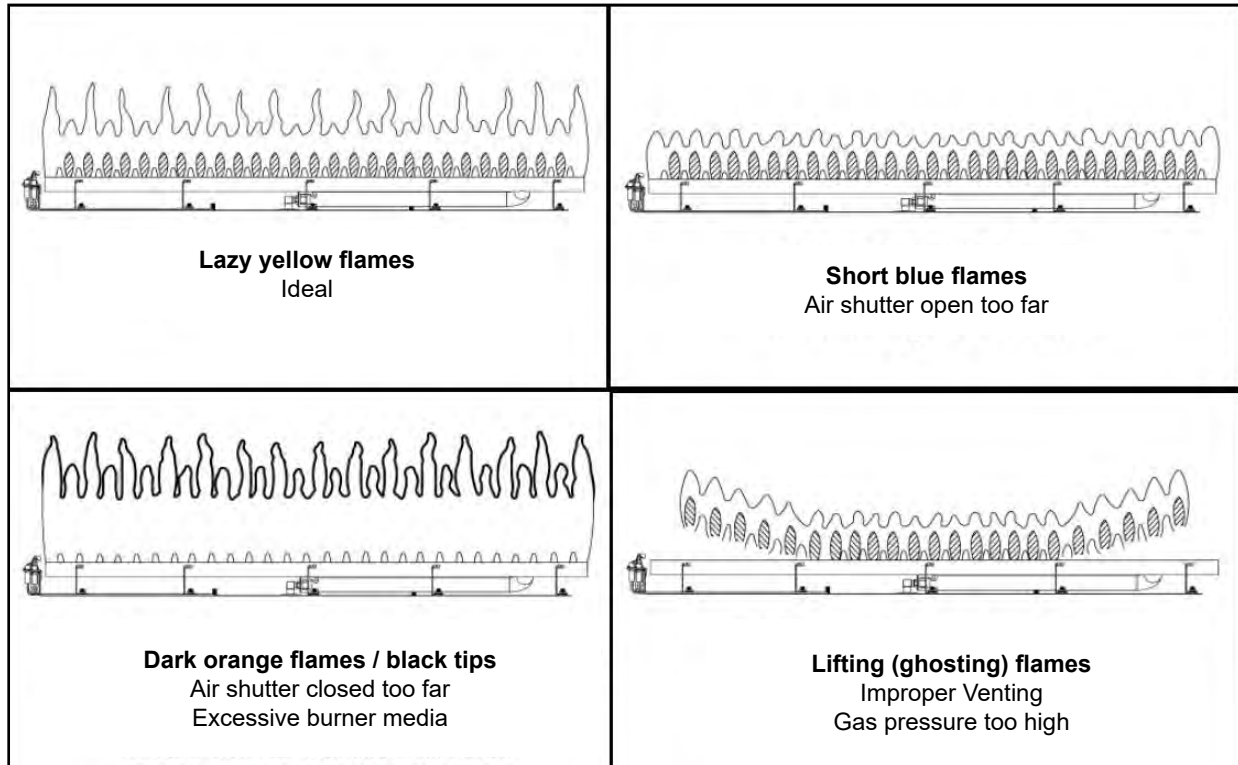
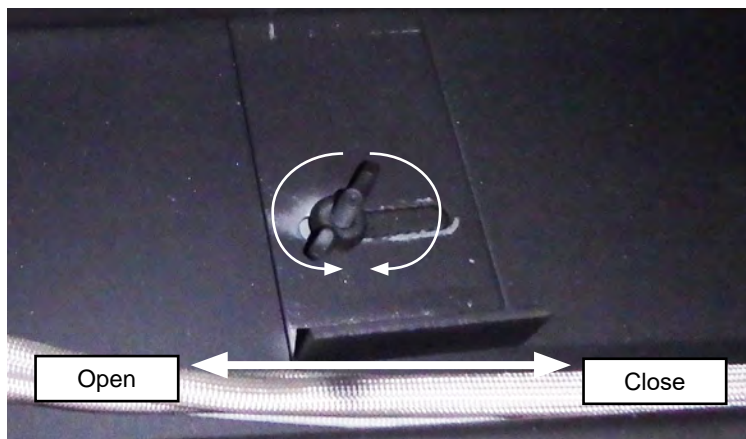

Figure 18.5.01:
Figure 18.5.02:
- Inspect and ensure the lighting of the main burner occurs within 4 seconds of the main gas valve opening. Flames should match those shown in **Figure 18.5.01**
The 37-DVTE36LN-2 includes an air shutter located under the door of the fireplace (see **Section 6.5** for information on how to access the air shutter adjuster) which may be used to adjust the primary air to achieve the ideal flame as shown in **Figure 18.5.01**. To adjust, loosen the wing nut on the air shutter and adjust as shown in **Figure 18.5.02**. To open the air shutter and increase air flow to the burner, slide the air shutter to the left. To close the air shutter and decrease air flow to the burner, slide the air shutter to the right.